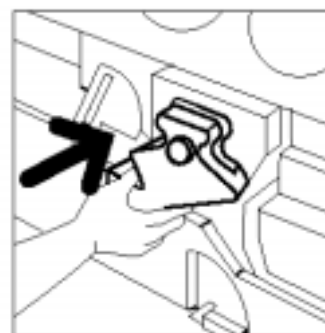

Figure 26: Inserting the new Developer Waste Container
- 9** Align the new Developer Waste Container with the arrow on the copier/printer, then slide the Developer Waste Container into the copier/printer, as illustrated in Figure 26.